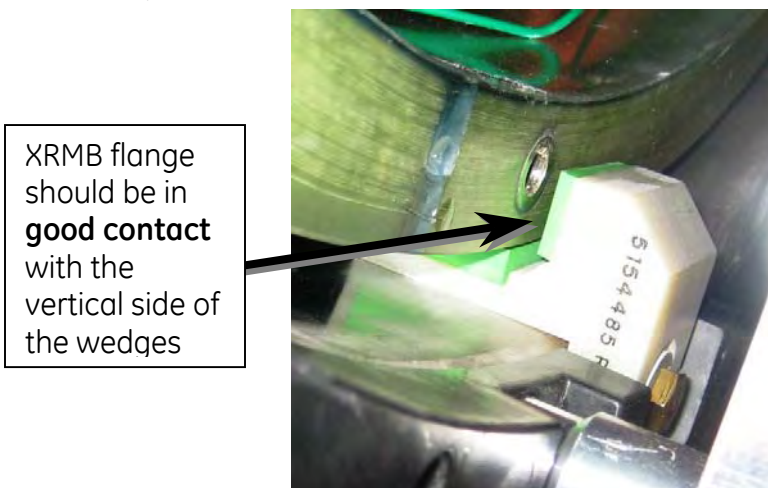

Figure 53 – Longitudinal Positioning Wedge
- P. Slowly push the XRMB until stopped by the two positioning wedges (135° and 225°) that are already attached to the magnet service-end flange. Push the XRMB against the two wedges so that the coil's end surface is in good contact with the vertical side of the 2 wedges. Raise the Support Plate bearing to gain more clearance between the coil and the lower wedges if necessary. **(FIG 53)**